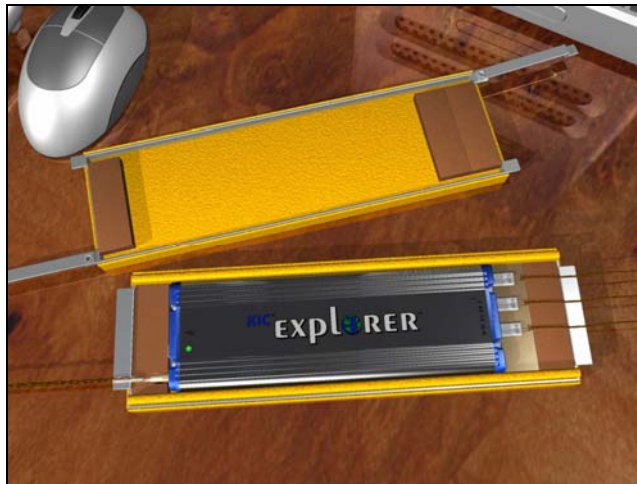

Figure 159: 12 Channel KIC Explorer with Thermal Shield
- The *KIC Explorer* antenna should extend fully, and exit from the back of the thermal shield. See Figure 159.